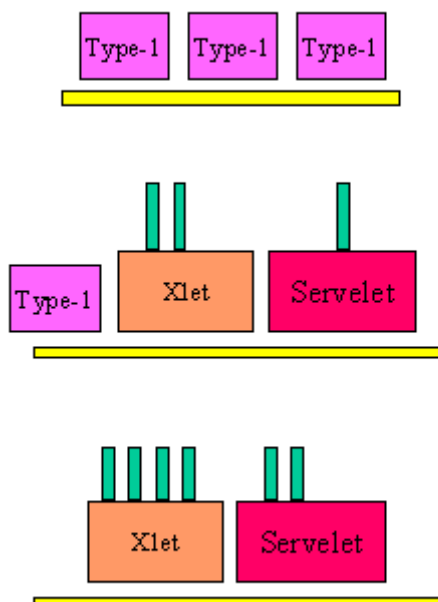

Fig. 2: Three Examples of Simultaneous Installation of Type 1 and 2 Applications
- **(MFP models only):** A maximum of three Type 1 applications can be installed on the MFP/LP at one time, depending on the amount of virtual memory (VM) that the applications require. As mentioned above, the GW system regards the CVM Java core itself as a single Type 1 application. Therefore if one Xlet and one Servlet application are installed at the same time, the MFP/LP will allow one additional Type 1 application to be installed (see Fig. 2 below).